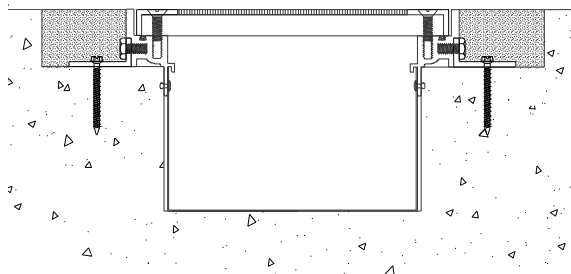

Figure 8
STEP 12. Install the tile into the cover plate recess at the time of installation of the finished floor (see Figure 8). Install the tile in accordance with the tile and adhesive manufacturers' instructions.